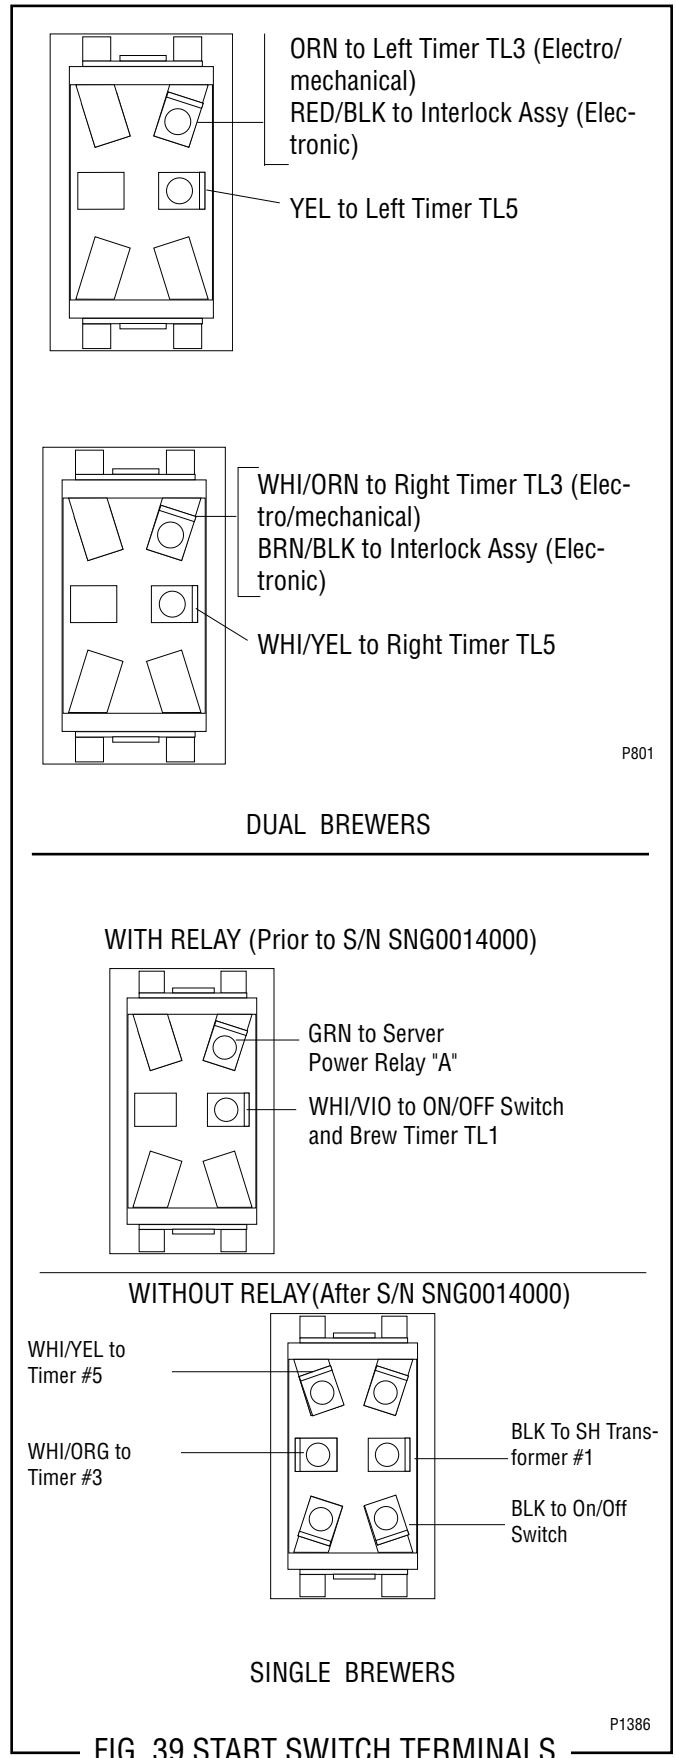

FIG. 39 START SWITCH TERMINALS P1386
4. Refer to Fig. 39 when reconnecting the wires.